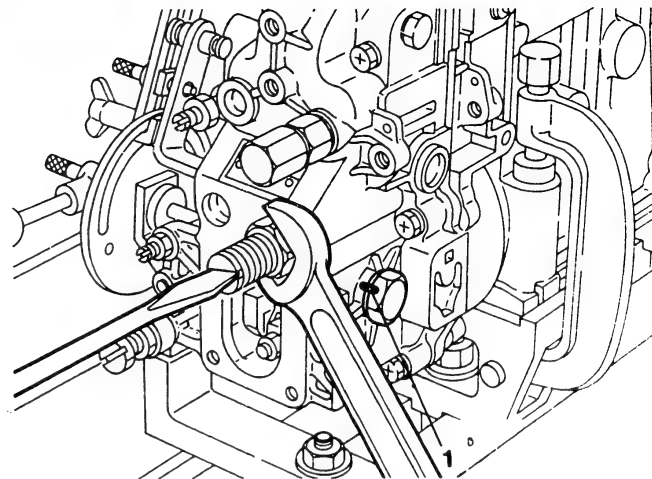

Fig. 178
3. Slowly decrease the pump speed from "Nv rpm" and adjust the torque spring capsule (144) so that the control rod is at position "Rc" at a speed of "Nq rpm" (refer to Fig. 178).